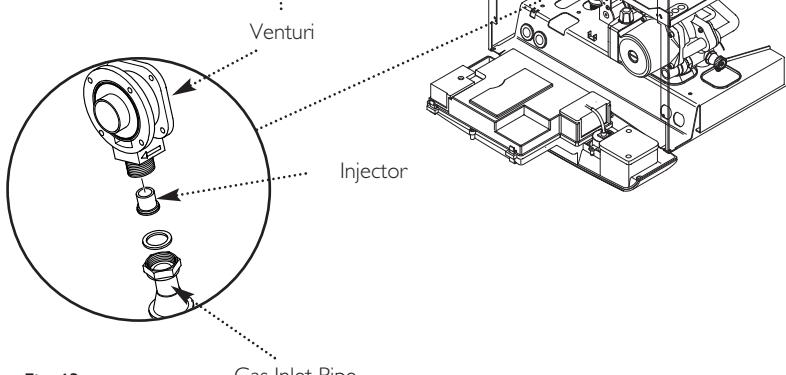

Fig. 63
6. Undo the nut on the gas inlet pipe to the venturi (Fig. 63) and pull the sensing pipe off the fan.
9. Carefully draw the fan, collector and cover assembly forward, being careful to retain the injector in the venturi (Figs. 63 & 64).